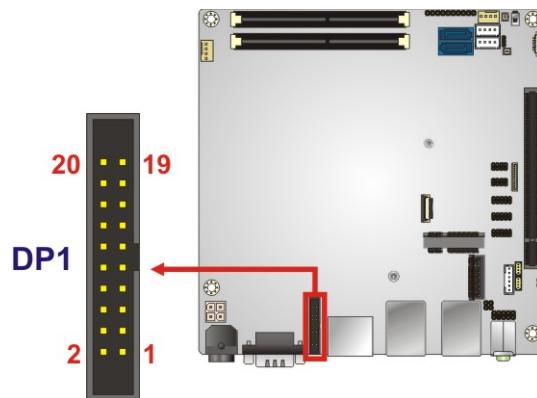

Figure 3-14: Internal DisplayPort Connector Location
- CN Location:** See **Figure 3-14**